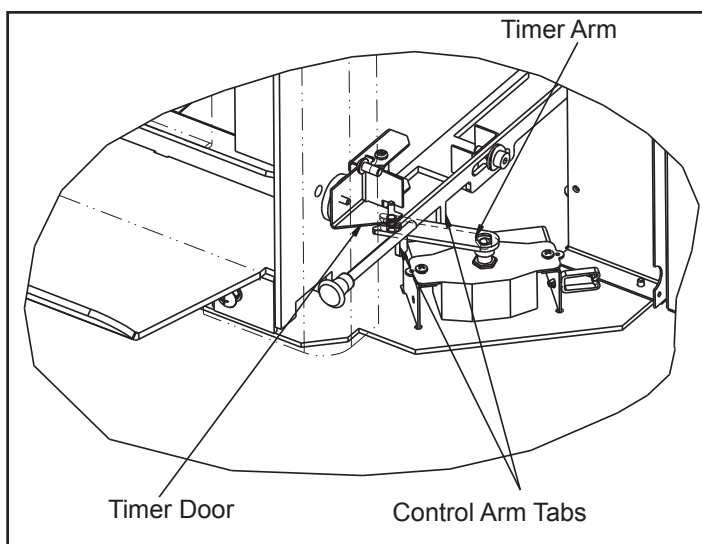

Figure 21.2
2. Re-install the timer assembly. The timer arm must be between the first and second control arm tabs. **Figure 21.2**.